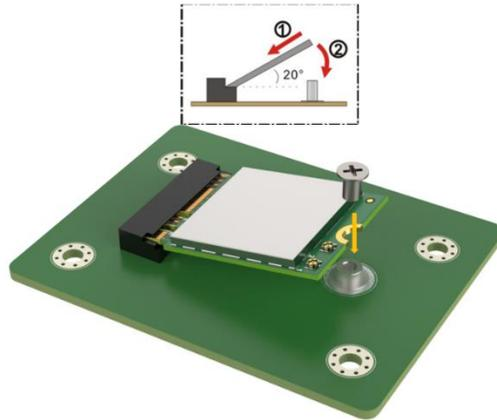

Figure 3-12: Insert the WLAN Module
- Step 3:** Insert the module into the socket at an angle. Line up the notch on the WLAN module with the notch on the slot. Slide the WLAN module into the slot at an angle of about 20° (Figure 3-12).